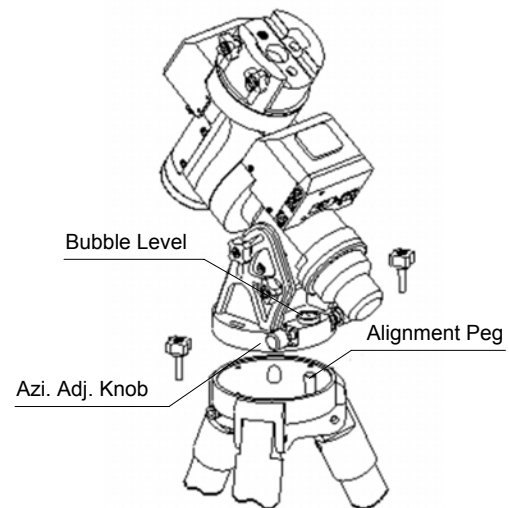

Figure 9
Locate the Azimuth Adjustment Knobs (next to the Bubble Level Indicator) and retract them to allow enough clearance for the mount to fit on the tripod head. Unscrew the two (2) Azimuth Locking Screws shown in Figure 9 and be careful not to lose the plastic washers; they will be needed to secure the mount. Place the mount onto the Tripod Head with the Bubble Level Indicator on top of the Alignment Peg. Place the Teflon washers and the two (2) Azimuth Locking Screws back and tighten the screws. Level the tripod base by adjusting the individual legs. You may use the built-in Bubble Level Indicator or an external torpedo level to check leveling.